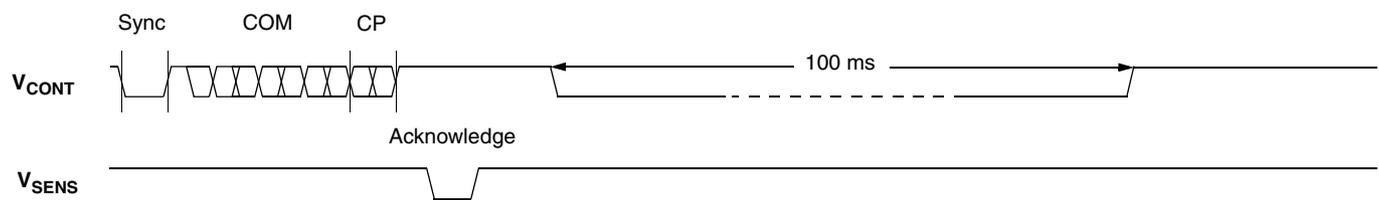

Fig. 4-4: Telegram for coding a ERASE, PROM, or LOCK command
- Programming the EEPROM cells (see Fig. 4-4)